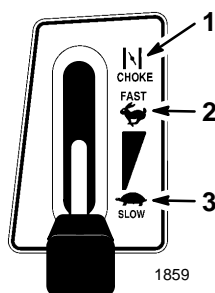

Figure 7
6. After the engine starts, slowly move the throttle lever to "FAST" (Fig. 7). If the engine stalls or hesitates, move the throttle lever back to "CHOKE" for a few seconds. Then move the throttle lever to "FAST." Repeat this as required.
4. Move the throttle lever to "CHOKE" (Fig. 7).
1. Move the throttle lever to “SLOW” (Fig. 7).